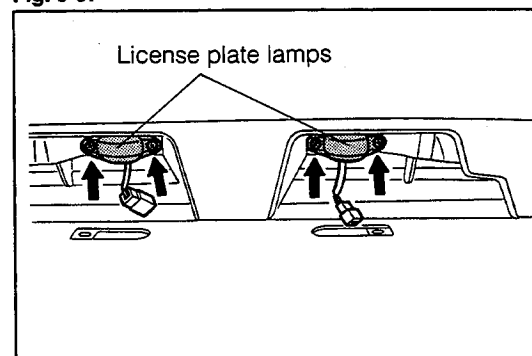

Fig. 9-38
2. Install the license plate lamps assembly to the rear bumper subassembly. (See Fig. 9-38.)